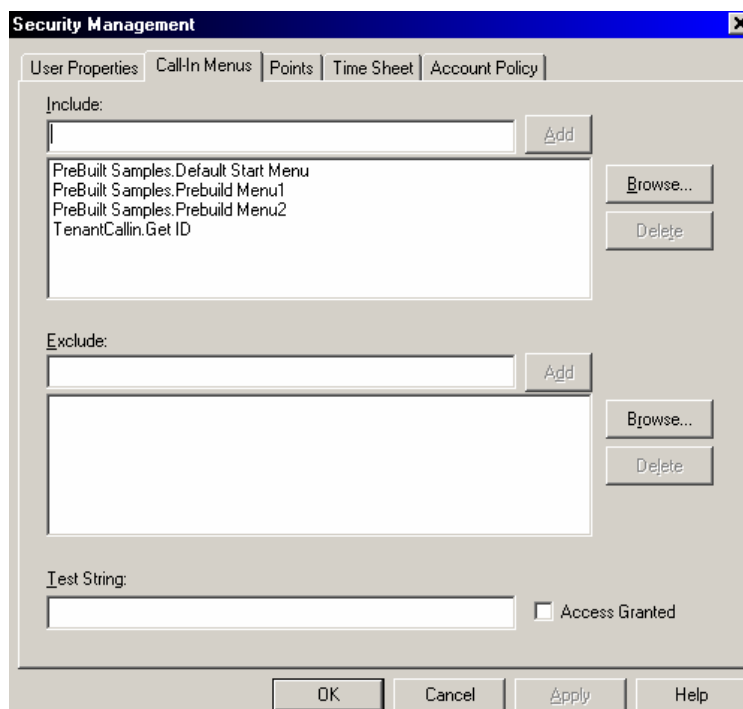

Figure 9.64. Included and Excluded Call-in Menus
3. The selected menus now appear under the **Include** and **Exclude** fields, as shown in **Figure 9.64**. To remove menus, highlight the item and click the **Delete** button. Click **Apply** to save changes to the user or group properties.